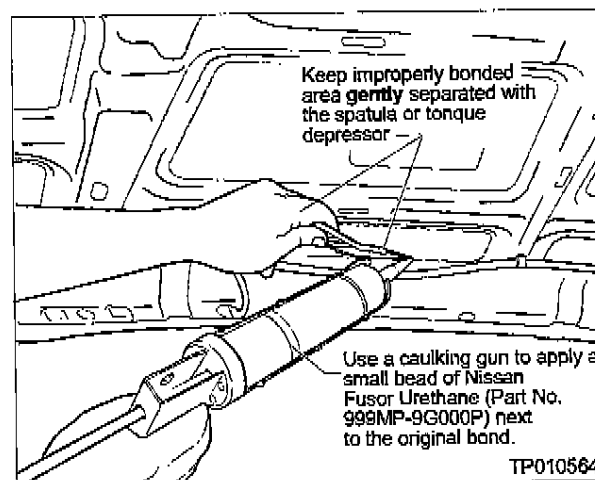

Figure 3
4. If a bond joint can be separated, keep the improperly bonded area **gently** separated with the spatula or tongue depressor. Using a caulking gun, apply a small bead of sealer/adhesive next to the original bond (see Figure 3).